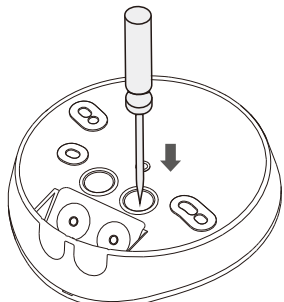

FIG.12
- 3.4.2.2 Feed the power cables through bottom base, please use the screwdriver to break the cable entry knockouts on the bottom base (See FIG.12).